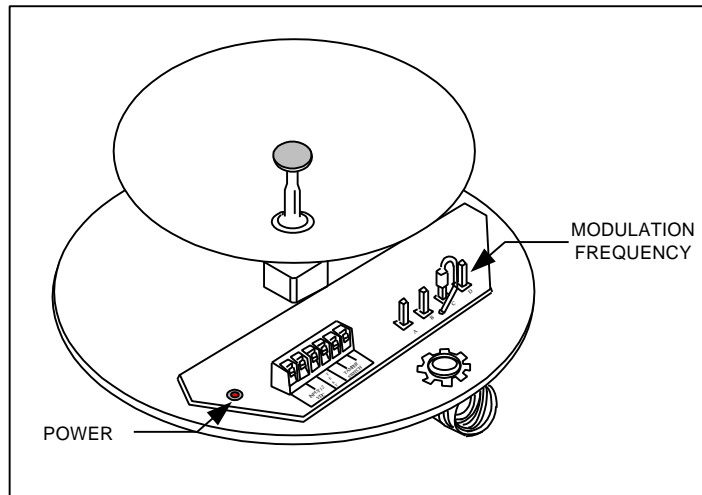

Figure 17 – Model 310BT Transmitter
2. Attach PCB jumper wire to appropriate terminal to select desired channel. (See Figure 17.)
3. Check for Transmitter operation by monitoring the Transmitter “ON” LED on the Transmitter Circuit Board. (See Figure 17.)